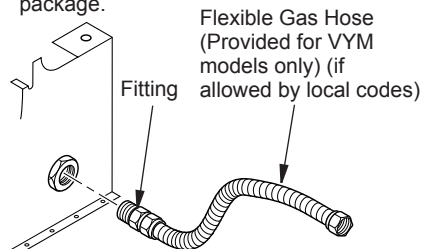

Figure 11 - Attaching Flexible Gas Hose to Heater
1. Apply pipe joint sealant lightly to male threads of the fitting to be threaded into gas control. Connect approved flexible gas hose (provided for VYM models only) to gas control fitting in heater (see Figure 11). **IMPORTANT:** Hold gas fitting with wrench when connecting flexible gas hose.